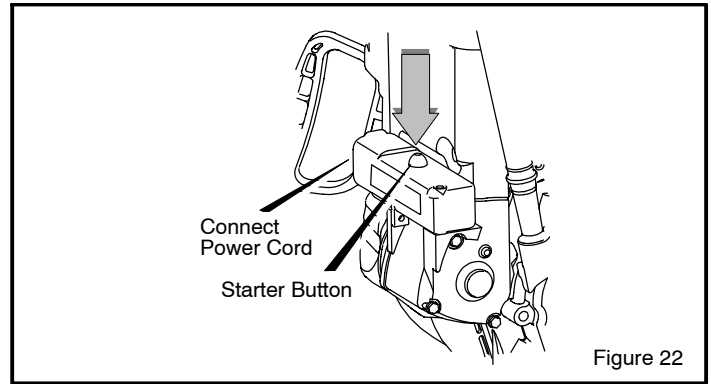

Figure 22
7. **(ELECTRIC START)** Connect the power cord to the engine and depress the starter button (Figure 22). To prolong the life of the starter, do not crank for more than 5 seconds at a time. Wait one minute between starts to allow the starter motor to cool.